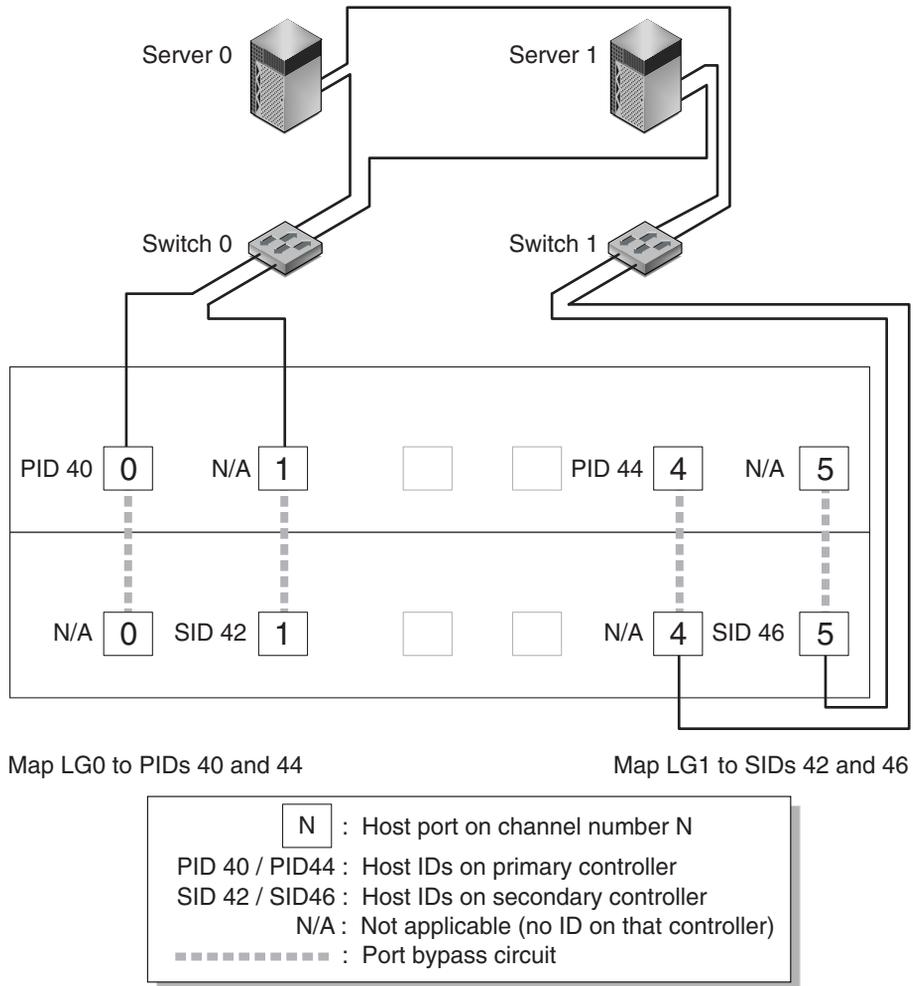
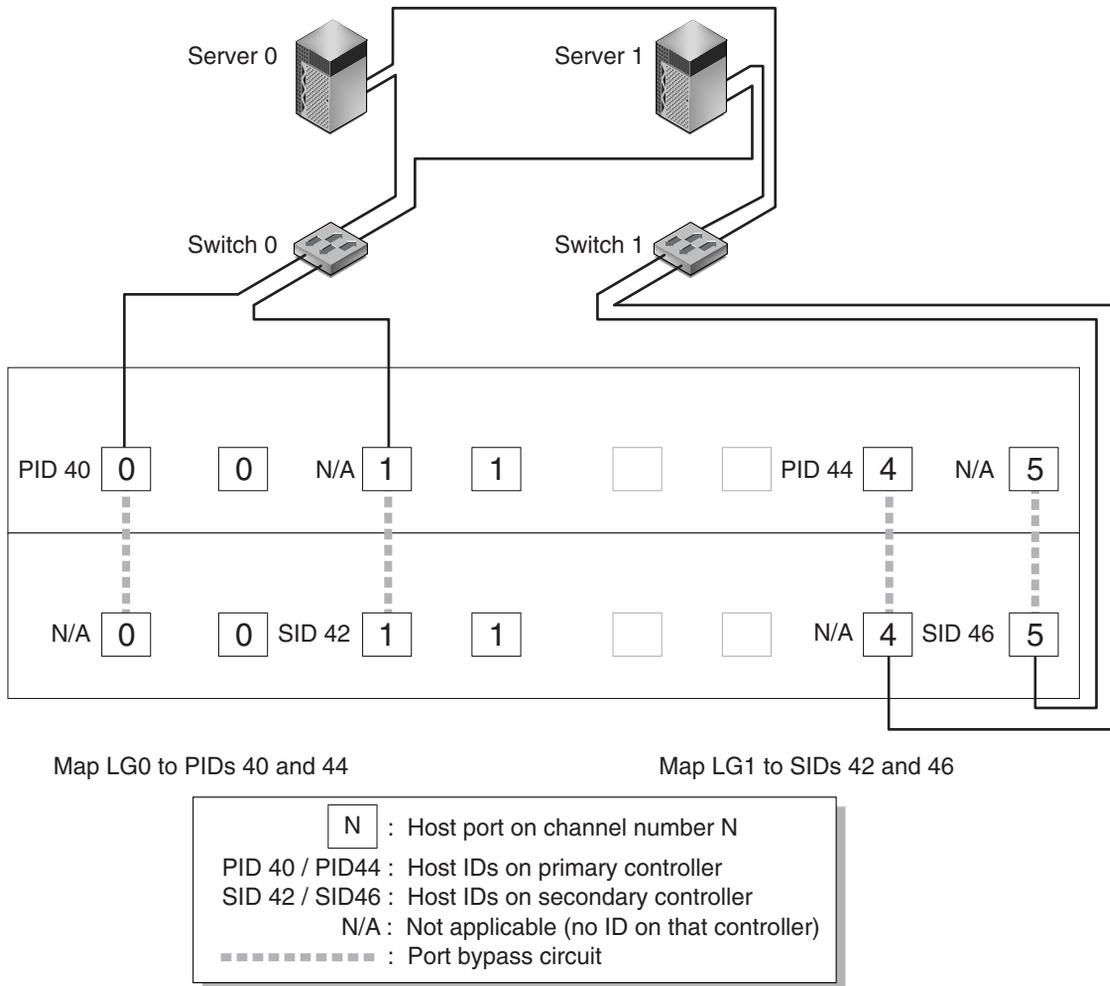

FIGURE 3-1 A Point-to-Point Configuration with a Dual-Controller Sun StorEdge 3510 FC Array and Two Switches
FIGURE 3-2 A Point-to-Point Configuration With a Dual-Controller Sun StorEdge 3511 SATA Array and Two Switches
- If you have two switches and set up multipathing (to keep all logical drive connections operational for any switch failure or the removal of any I/O controller module), ensure that each logical drive is mapped to two ports, one on each I/O controller module, and on two channels. The cables from the two ports mapped to each logical drive must be cabled to two separate switches. See FIGURE 3-1 and FIGURE 3-2 for examples of this configuration.
In FIGURE 3-1 and FIGURE 3-2, with multipathing software to reroute the data paths, each logical drive remains fully operational when the following conditions occur:
TABLE 3-11 summarizes the primary and secondary host IDs assigned to logical drives 0 and 1, based on FIGURE 3-1 and FIGURE 3-2.